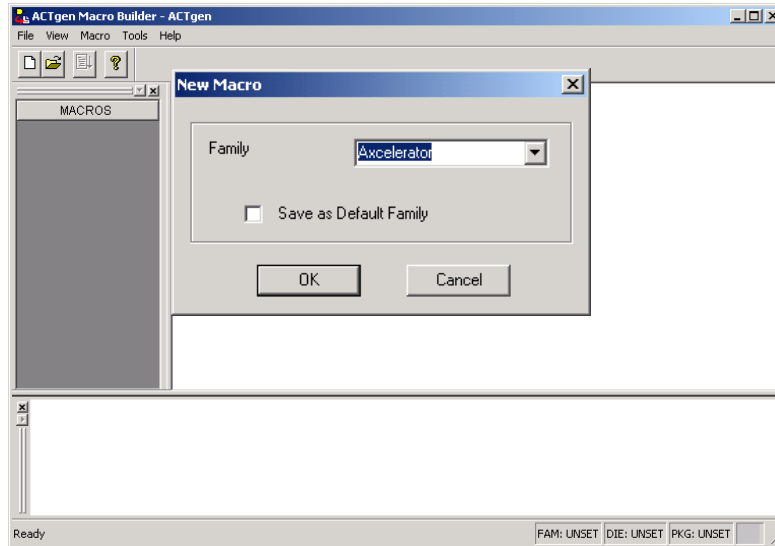

Figure 2 • Invoking ACTgen and Choosing the AX Family
- Select File -> New to select the Axcelerator Family as shown in Figure 2 on page 2. Click OK.